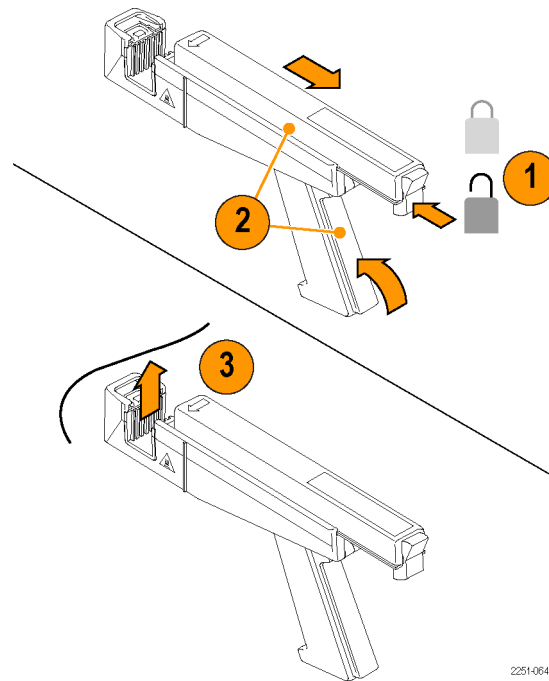

Figure 7: Unlock and open the TCP303 and TCP404XL
3. Lock the probe slide closed. (See Figure 6.) (See Figure 7.)